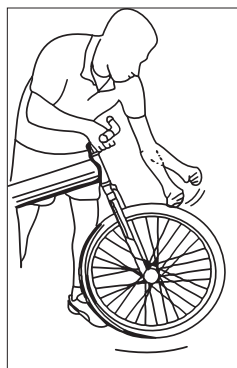

Fig. 16: Strike the wheel in a downward motion.
5. Before riding, lift the front of the bicycle so that the front wheel is off the ground and give the top of the tire a few sharp downward strikes (Fig. 16). The wheel should not wobble or come off.